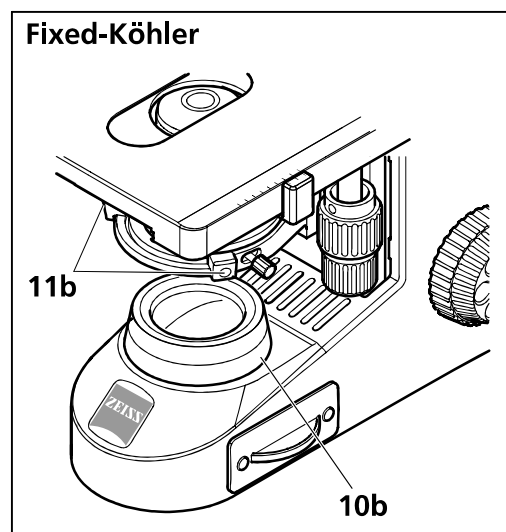
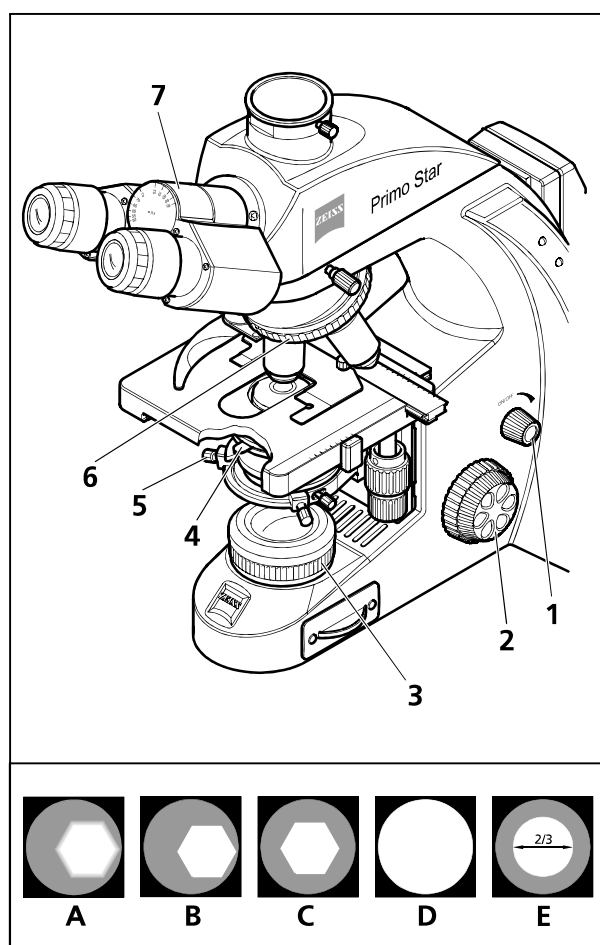

Fig. 4 Controls
Fig. 8 Adjusting transmitted-light brightfield
- The smoothness of the coarse focusing drive (Fig. 4/18) is factory-adjusted. However, you can readjust it when required.
Legend to Fig. 4:
- First, place a contrasty specimen slide with the 0.17 mm cover slip being on top in the specimen holder of the mechanical stage. Fix the slide by means of the spring lever (Fig. 4/12).
- Turn rotary knob (Fig. 8/1) on microscope stand to adjust the illumination intensity.
- Move the Abbe condenser up to the top mechanical stop by turning knurled knob (Fig. 4/15); set the control lever of the aperture diaphragm (Fig. 4/14) to mid-position.
- Turning at the knurled ring (Fig. 8/6) of the nosepiece, swing the 10x objective into the light path.
- On the binocular tube (Fig. 8/7), first look through one eyepiece and turn the focusing drive (Fig. 8/2) to focus on the specimen.
- Close the luminous-field diaphragm (Fig. 8/3) until it becomes visible (even if not in focus) in the field of view (Fig. 8/A).
- Turn the knurled knob for vertical adjustment of the condenser (Fig. 4/**15**) until the edge of the luminous-field diaphragm appears sufficiently sharp (Fig. 8/**B**).
- Center the image of the luminous-field diaphragm using both centering screws (Fig. 8/**5**) of the condenser (Fig. 8/**C**). Then, open the diaphragm until it just disappears from the field of view (Fig. 8/**D**).
- To adjust the aperture diaphragm (contrast), remove one eyepiece from the tube and look through the tube with your naked eye. Swing lever (Fig. 8/**4**) to adjust the aperture diaphragm to approximately 2/3 ... 4/5 of the diameter of the exit pupil of the objective (Fig. 8/**E**). In most applications, this aperture diaphragm setting provides optimum contrast at almost ideal resolution, and is therefore the best compromise for the human eye.